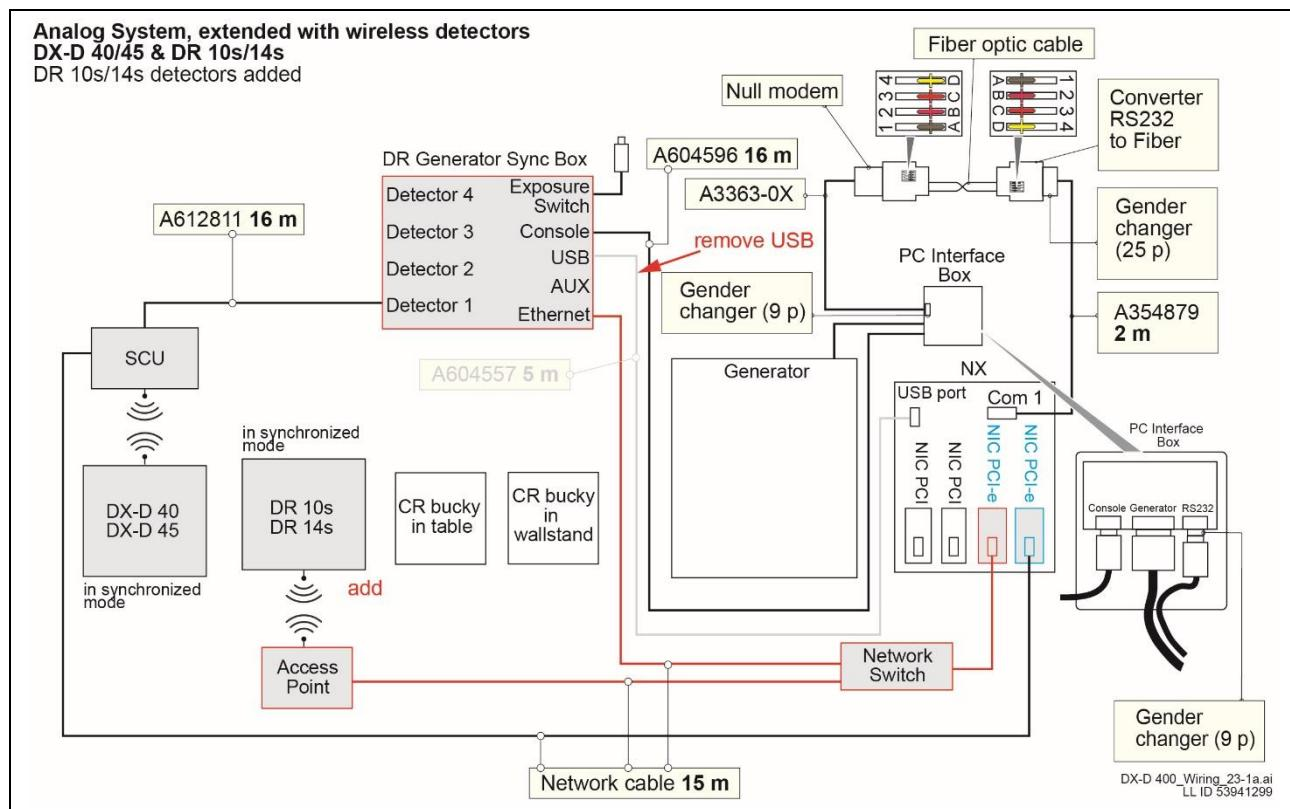

Figure 16: Analog system – DR 10s/14s detectors added to installed DX-D 40/45 detectors
- (5) Install Trixell detector software TRI 2.1 (or later).
- (6) Install the DR 10s/14s detectors in synchronized mode.
- Wiring diagram for analog systems, refer to Figure 16.